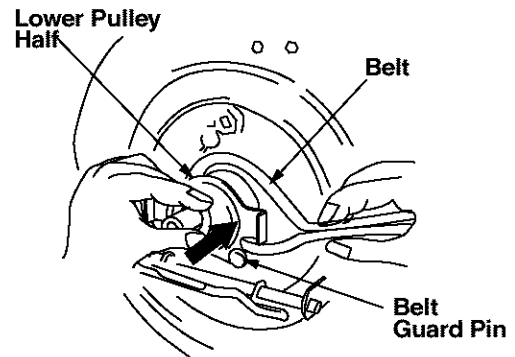

Figure 27
- Pinch both sides of the belt together so that the belt is not in the pulley groove, and the lower pulley can be pushed towards the engine. See Figure 27.